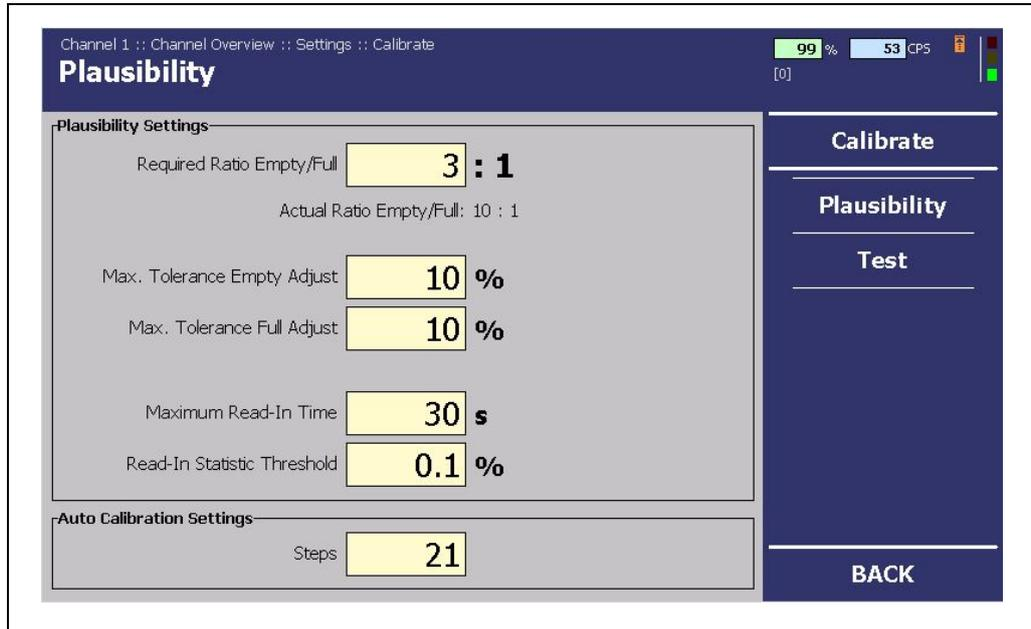

Fig. 60 "Channel Overview" Menu, Settings - Calibration (Plausibility)
In the "Test" submenu, you can enter a test count rate (Fig. 60, Item 3) which is used instead of the count rate of the detector to calculate the fill level. As long as this test count rate is in effect, the background of the input field will be shown in red. The calculated fill level is displayed (Fig. 60, Item 3).
1. Click in the input field (Fig. 60, Item 3).
- ▶ The test mode is started (Fig. 60, Item 1).